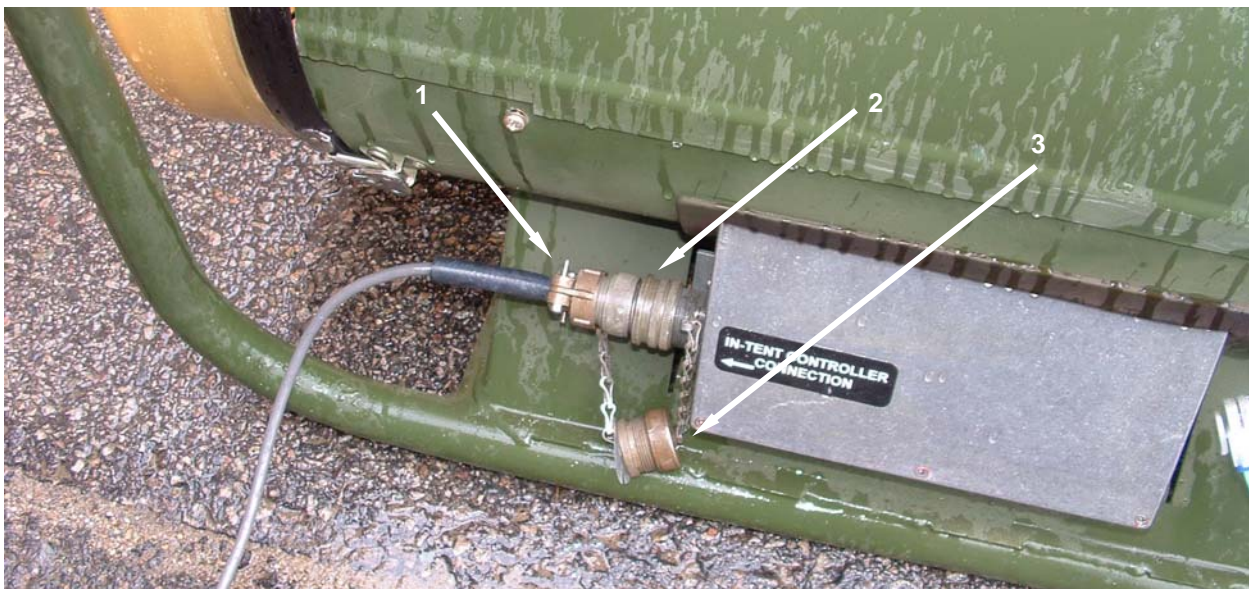

Figure 13. Prepare for Movement – Disconnect the In-tent Controller Cable.
5. Disconnect the in-tent controller cable (**Figure 13, Item 1**) from the control connector on the heater (**Figure 13, Item 2**) and immediately install the protective dust caps (**Figure 13, Item 3**) on the control connector and the cable connector.